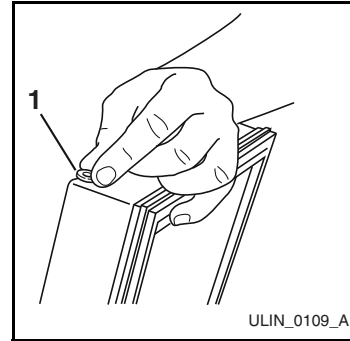

Figure 14
6. Install hinge on opposite side, bottom of cabinet (**Figure 14**). Replace nut on back side where installed. Align hinge outer edge with cabinet before tightening screws.